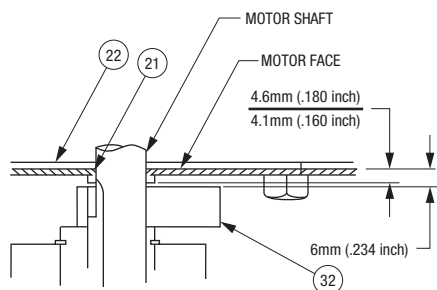

Figure A1 ⑧
When reassembling the motor, refer to Figure A1 for the face seal seating dimension. Also, refer to this figure for setting the vertical position of counterweight (32).